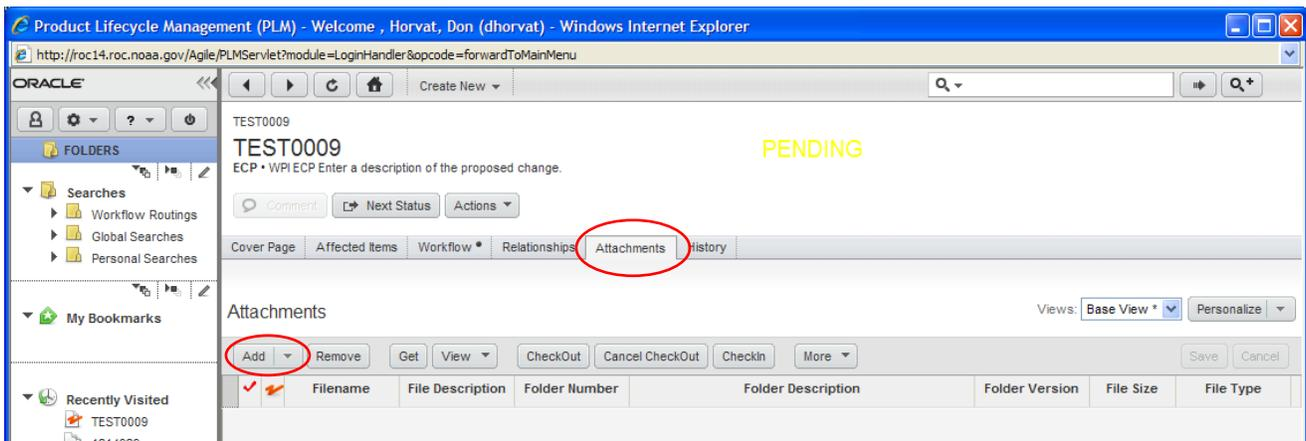
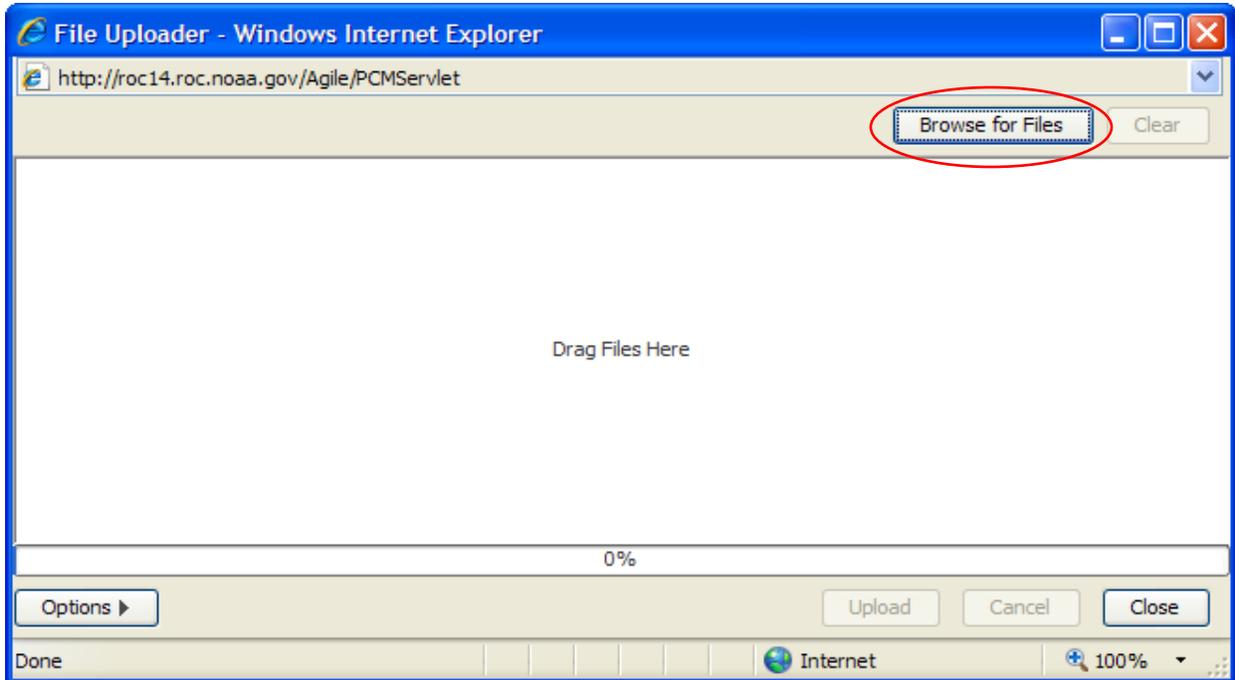

Figure 9: Attachments tab and Add button location.
Figure 10: File Uploader and Browse for Files button.
1. To add attachments, select the **Attachments tab** on the ECP form (Figure 9).
2. Click the **Add** button  located on the Attachment tab's toolbar (Figure 9). The **File Uploader** dialog box will appear (Figure 10).
3. Click the **Browse for Files** button on the **File Uploader** window (Figure 10).